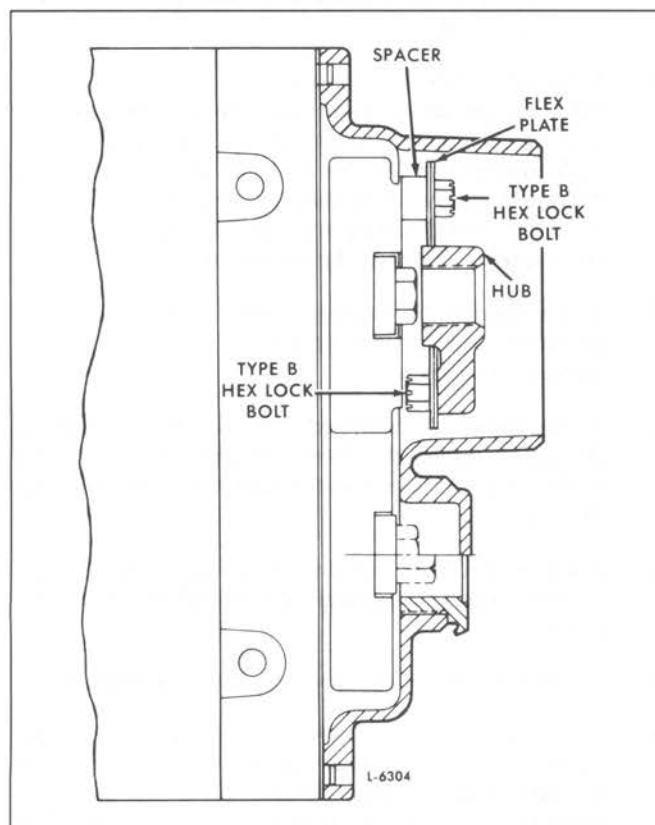

Fig. 26 – Front Hub Assembly – Large Bearing Blowers
2. Attach the two flex plates and spacers to the drive hub with three new type B hex lock bolts (Fig. 26). *Do Not attempt to reuse patch bolts.* Tighten the 5/16"-24 x .750" bolts to 25–30 lb-ft (34–41 N•m) torque.
3. Attach the drive hub and spring plate assembly to the right-hand helix blower rotor timing gear with three spacers and three type B hex lock bolts (Fig. 26). Tighten the 5/16"-24 x 1" bolts to 25–30 lb-ft (34–41 N•m) torque.